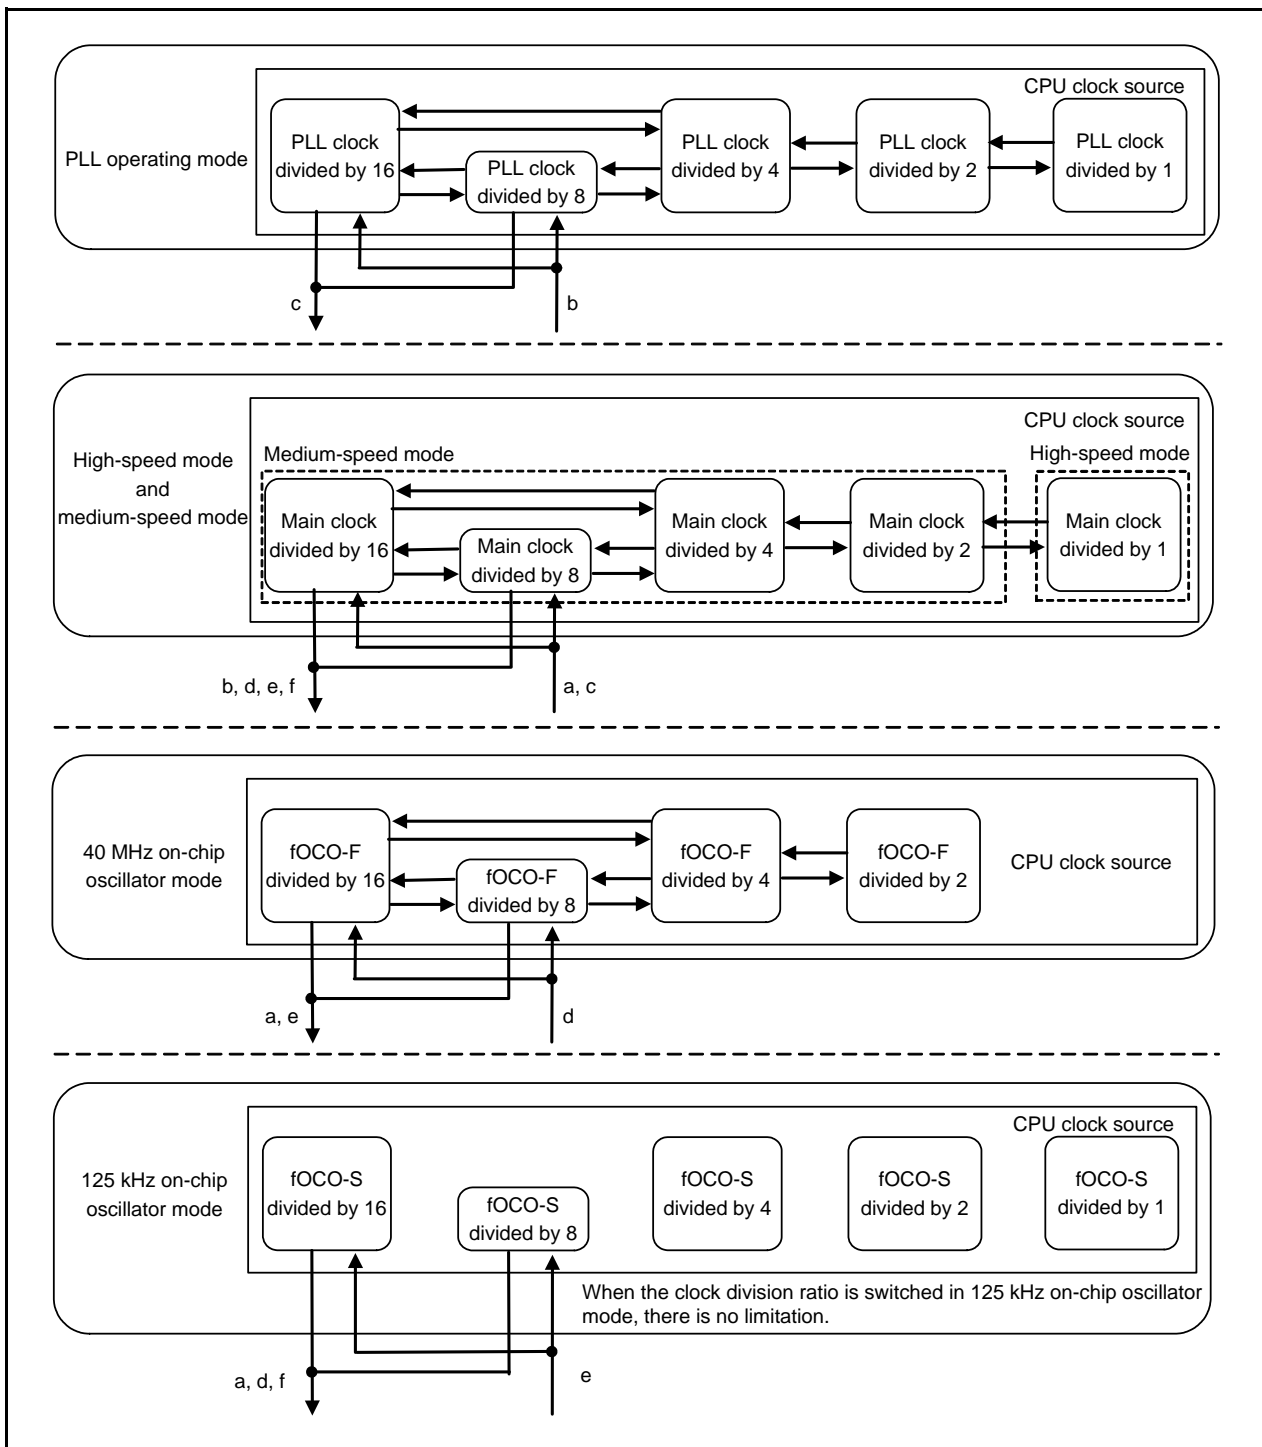

Figure 9.2 Clock Divide Transition
- When the clock division ratio is switched in PLL operating mode, high-speed or medium-speed mode, or 40 MHz on-chip oscillator mode, the ratio changes in the order shown in Figure 9.2.
- To change the mode, follow procedures a to h listed below. For details on register and bit access, refer to 9.2 “Registers”. Letters a to h correspond to those in Figure 9.1 “Clock Mode Transition” and Figure 9.2 “Clock Divide Transition”.